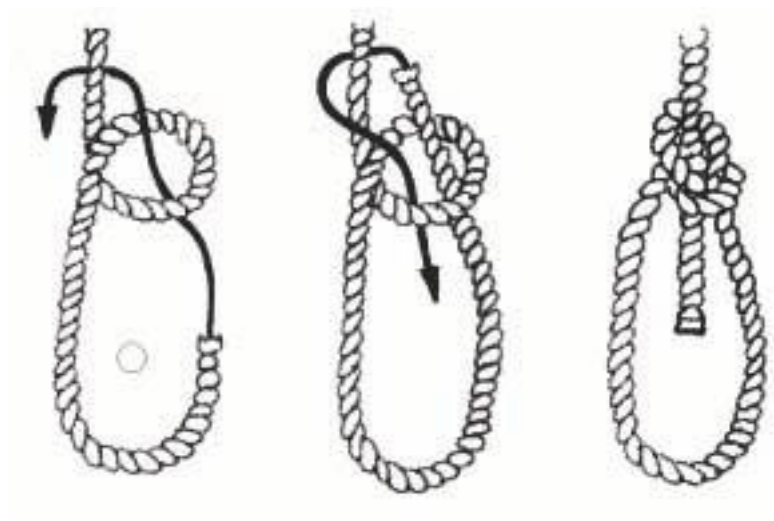

Figure 2-21. Bowline Knot
(1) Bowline. Used to secure the end of the rope to an object/anchor point. The pigtail must be inside and secured with an overhand (Figure 2-21).